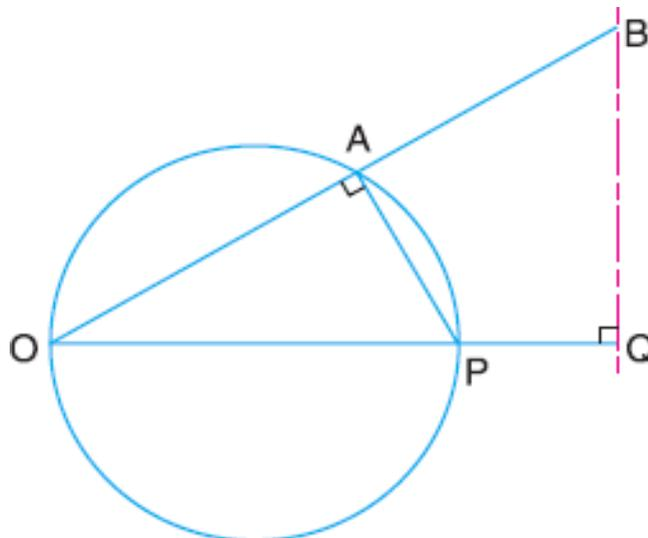

Fig. 2.1 Exact straight line motion mechanism
- The principle adopted for a mathematically correct or exact straight line motion is described in Fig.2.1